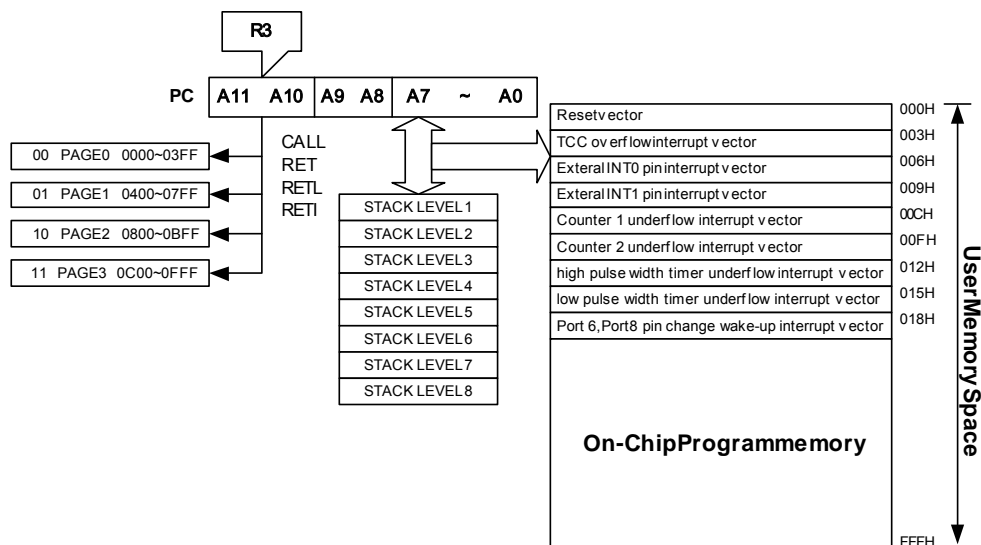

Fig. 3 Program Counter Organization
- * The structure is depicted in Fig. 3